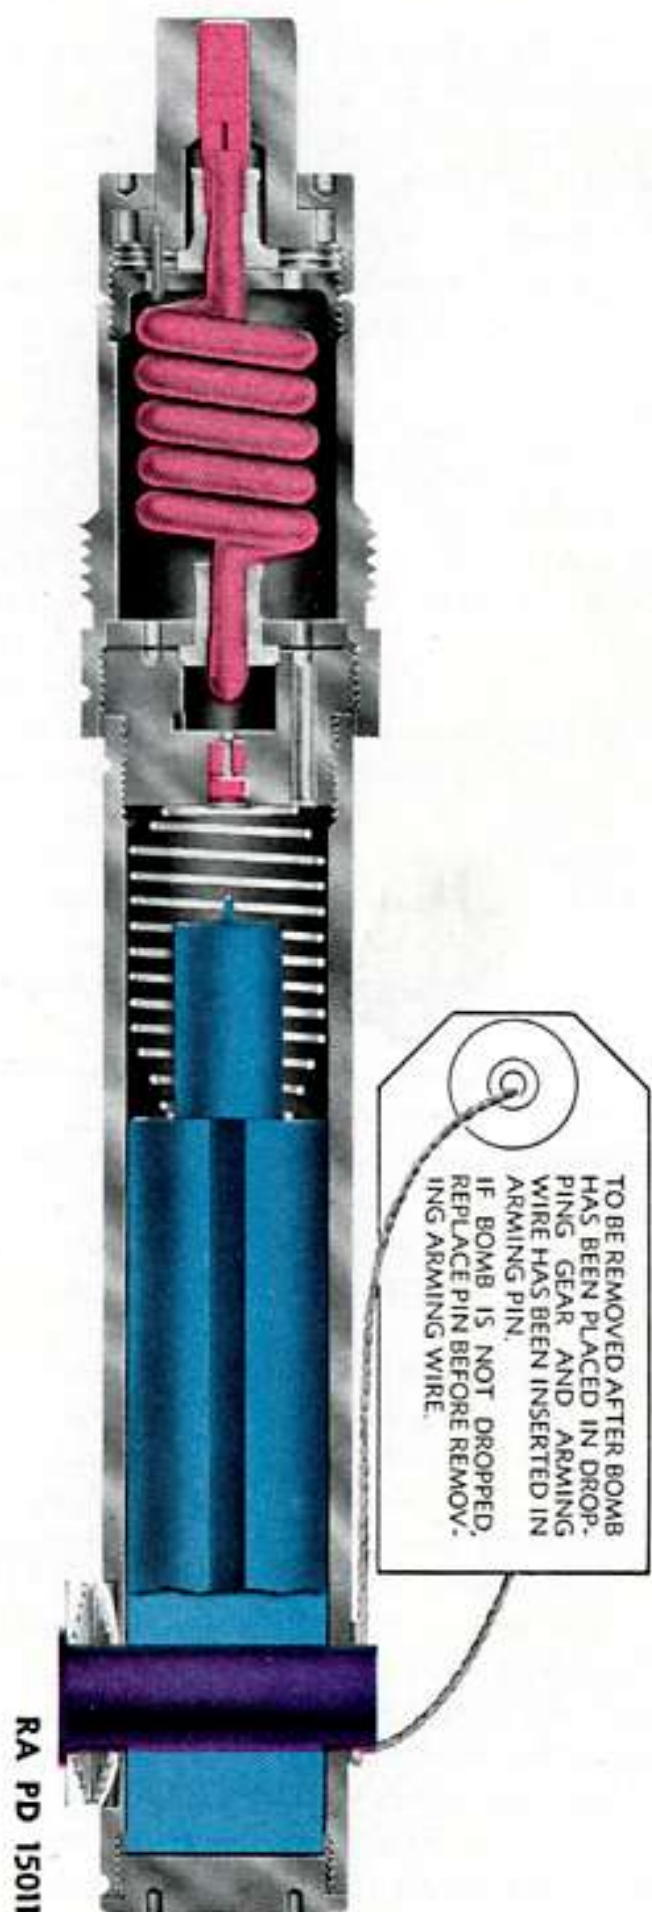

Figure 78. FUZE, bomb, M106.
b. Description. This fuze consists of a cylindrical housing which contains a weighted plunger carrying the firing pin, a primer, a length of delay fuze and a detonator. (See fig. 78.) The plunger is restrained by a spring loaded arming pin which passes through the plunger and housing near the outer end. The arming pin has two holes drilled through it; one for the safety pin, the other for the arming wire.
- (1) Remove the fuze from its sealed container.
- (2) Inspect to see that it is serviceable and of the desired delay.
- (3) If necessary, turn the arming pin so that the split end of the safety cotter pin points toward the threaded end; that is, toward the bomb.
- (4) Screw the fuze into the bomb handtight.
- (5) Press on the head of the arming pin to expose the inner hole in the other end. Thread the arming wire through this inner hole. Adjust the wire to protrude 2 to 3 inches and remove all kinks and burs. No safety clip is necessary.
- (6) Remove the safety cotter pin.
- (7) If the bomb is not dropped, unfuze by reversing the steps above.